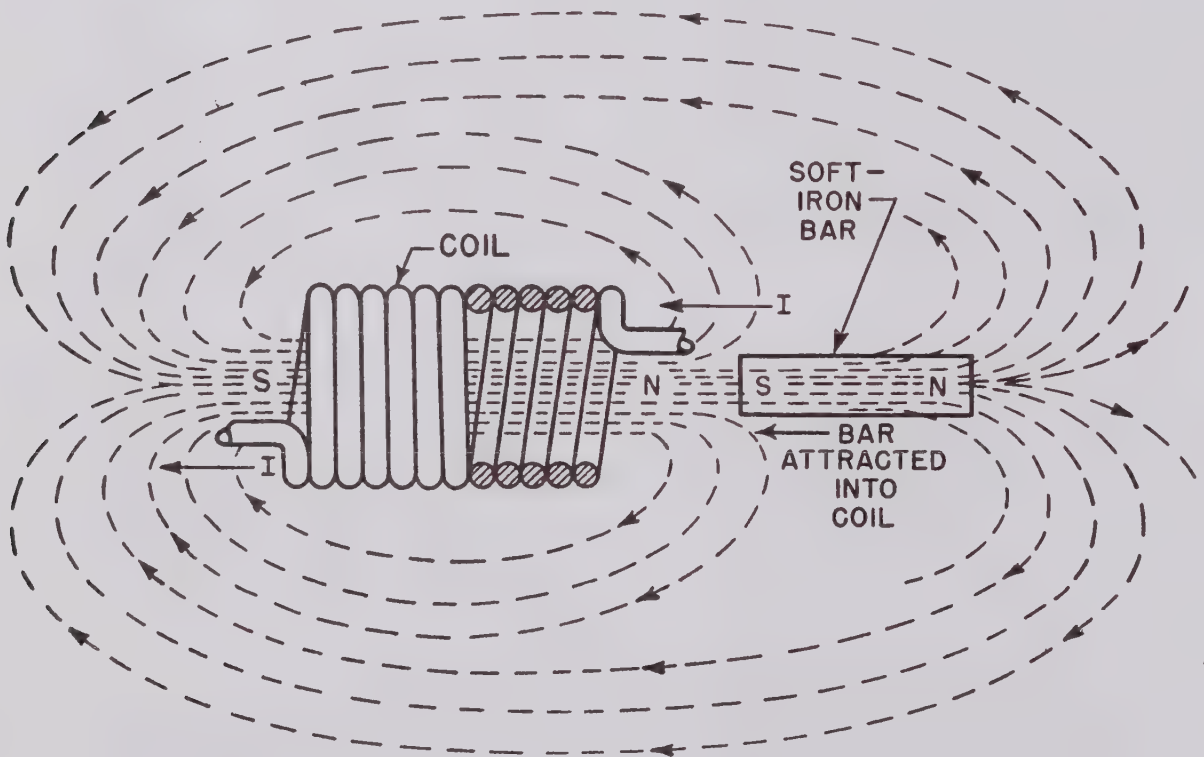

Figure 2. Effect of lines of force from current-carrying coil on soft iron bar.
- (1) *Basic principle.* If a soft-iron bar is placed near an electromagnet, the bar becomes magnetized (fig. 2). The molecules of the bar line up, and the lines of force through the bar are in